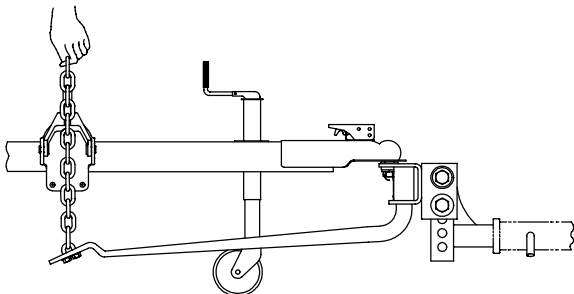

FIGURE 5
- Position lift units (5) on trailer "A" frame. If trailer tongue consists of a single tube or other narrow member, a pole tongue adapter (Draw-Tite P/N 3280) must be used.
- Hold spring bar chain (7a) vertical. Center lift units (5) with chain [See figure 5].
- With lift unit (5) in raised position, pull straight up firmly on spring bar chain (7a). Note which link is closest to chain hook [See figure 5]. The next lower link will be used for hook up.